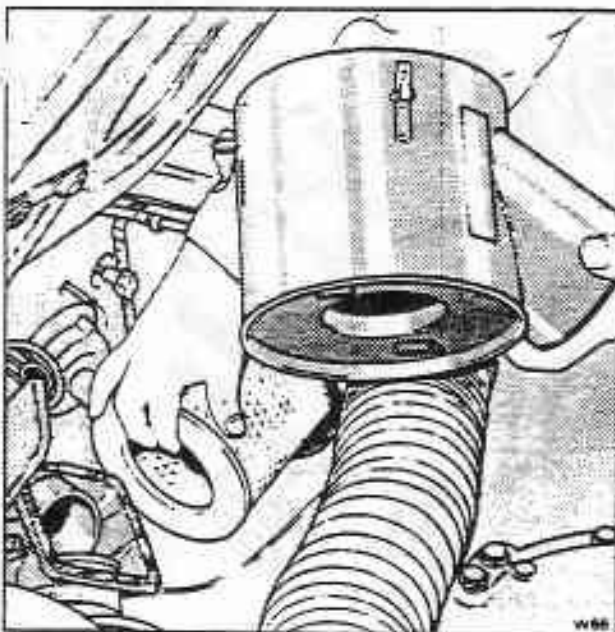

Fig. K6-3 Withdrawing the air filter element
5. Carefully free the joint and move the housing from the vicinity of the air cleaner (see fig. K6-3).
7. Carefully free the joint and withdraw the housing. The filter element will be loose but it should remain in position until after the housing has been completely withdrawn (see fig. K6-3).
5. Enter the element into the wing valance (see fig. K6-3).